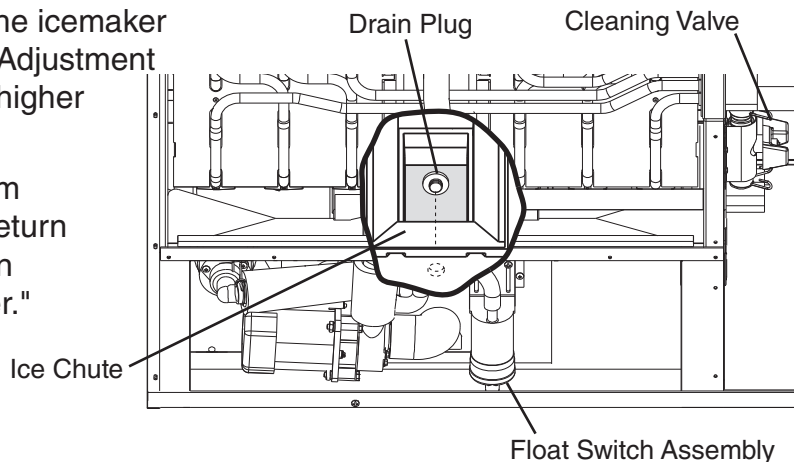

Fig. 24
- 7) Remove the insulation panel. Remove the drain plug located on the lower front part of the ice chute. See Fig. 24. Allow the water tank to drain.
- 5) Remove the drain plug located on the lower front part of the ice chute. See Fig. 24. Allow the water tank to drain.